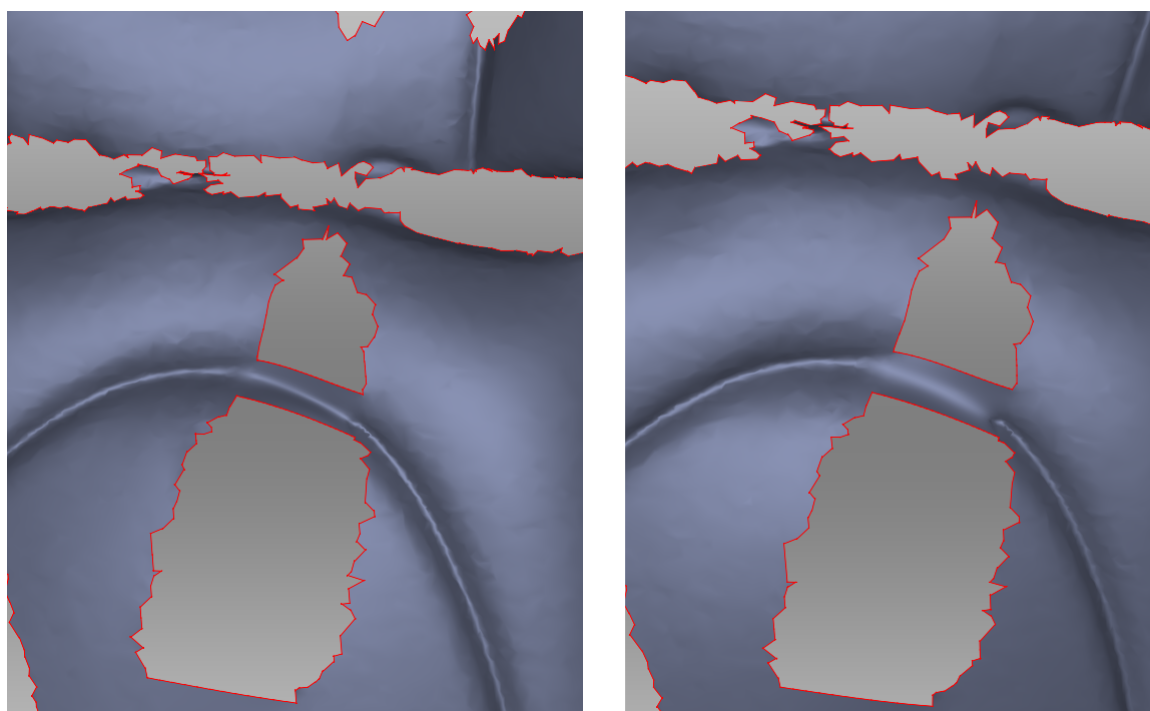

Figure 111: Small smoothness values on left and maximum on right.
- Use small or medium values of the *Bridge smoothness* slider (Figure 111).